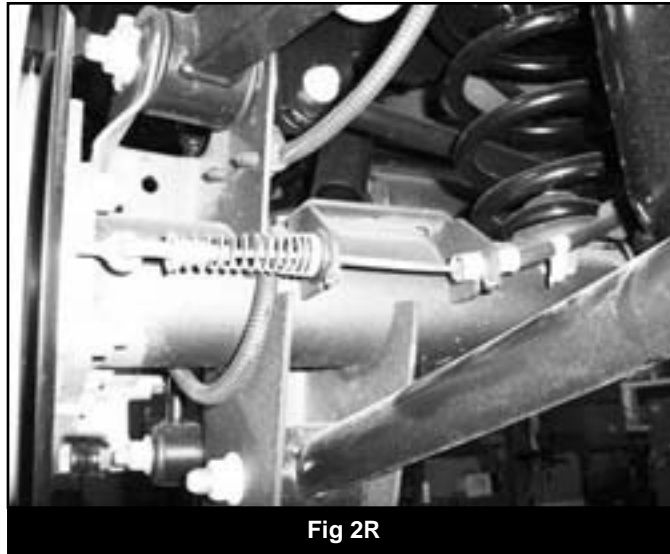

Fig 2R
5. Disconnect the parking brake cable from brakes and axle mounts (Fig 2R). Compress the tabs on the retain clips and pull the cable out of the axle brackets to remove.